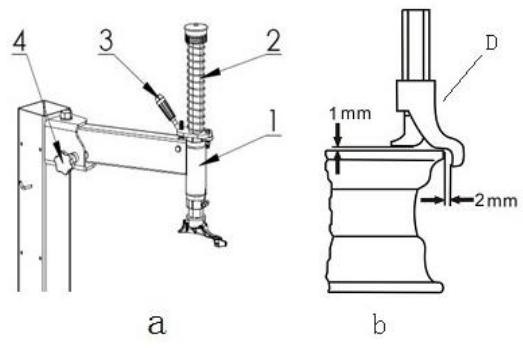

Fig. 16
- Unlock (de)mountingarm (2, fig. 16a) by pulling the locking lever (3, fig.16) towards you.
**CAUTION!** In order to avoid damaging the inner tube if there is one, it is advisable to carry out this operation with the valve about 10 cm right of the mounting head. (Fig. 16)